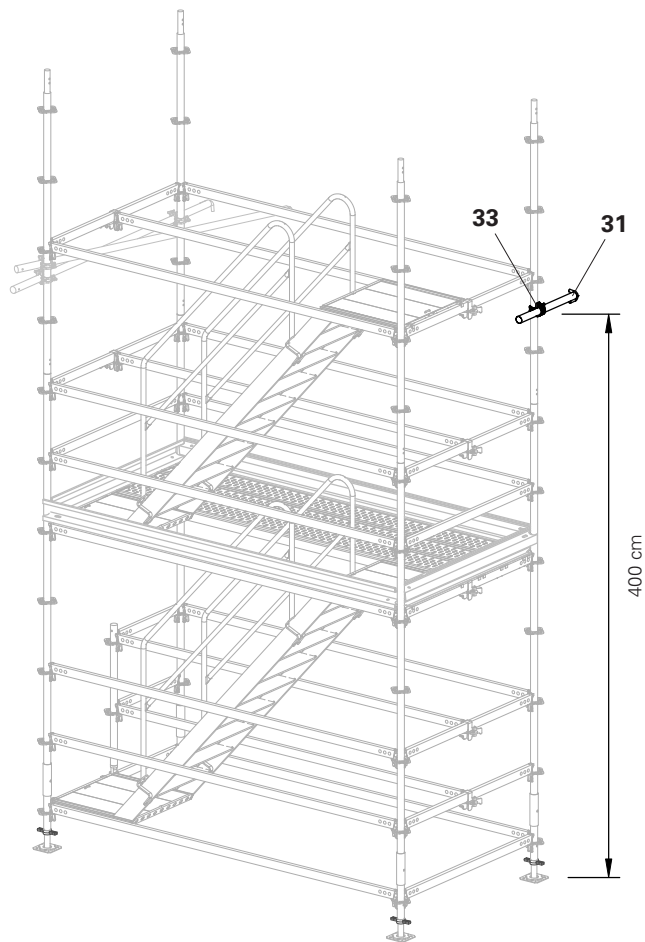

Fig. A6.01
2. Fasten the Double Coupler (**33**) to the inner leg with Wall Tie UWT 45 (**31**). (Fig. A6.01)